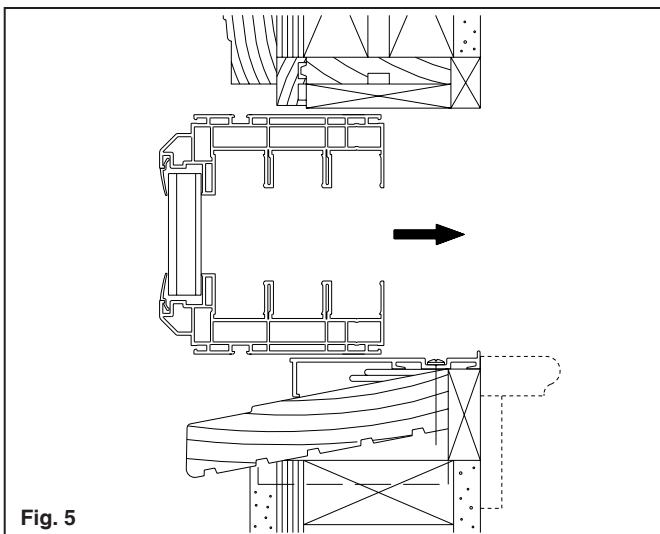

Fig. 5
A. Slide the new frame into the opening. See **Fig. 5**. Center frame between existing jambs and use shims to straighten and square frame. Measure frame diagonally across the corners to check for squareness. Adjust if needed.